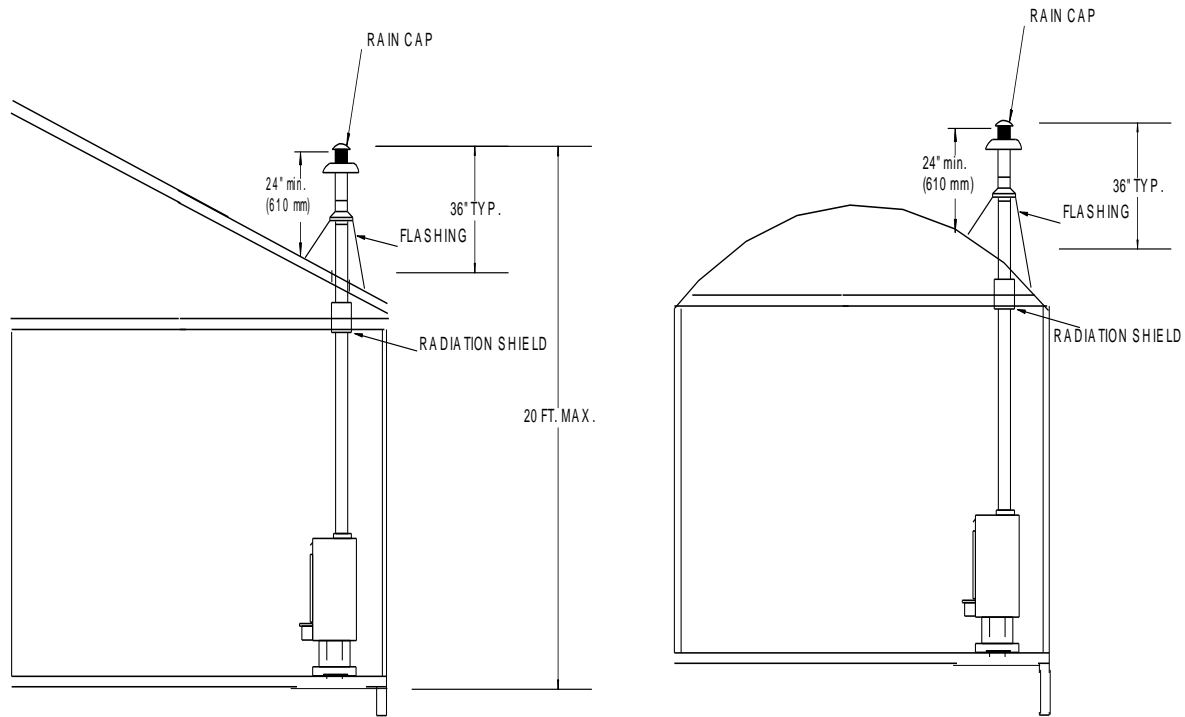

Figure 12D
- (b) Chimney pipe height is at least 2 feet higher than any part of roof within 10 feet of chimney. See ( Figure 12D).